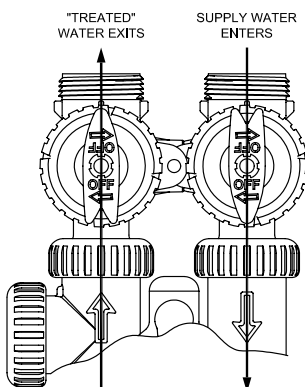

Figure 2
7. Once again, push REGEN button and hold down for 3 seconds. Keep pushing REGEN button until “Backwash” appears. Slowly place the by-pass valve into the “Diagnostic Mode” 1/2 way. Allow water to slowly fill the mineral tank. When a solid stream of water starts coming out of the drain line, open the by-pass inlet valve all the way and allow to run out the drain until water clears. Then slowly place the by-pass into the “normal operation” mode by opening the outlet side of by-pass valve, figure 2, page 4.